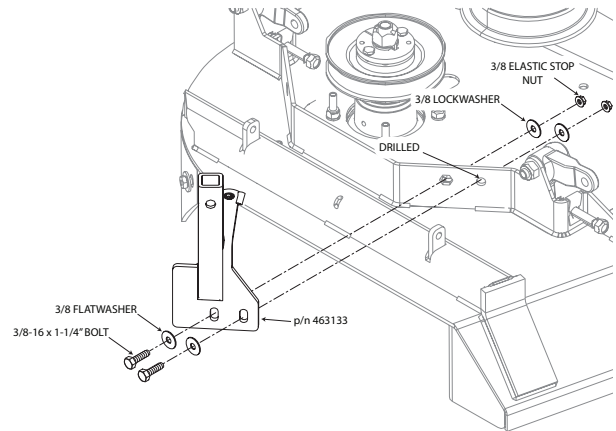
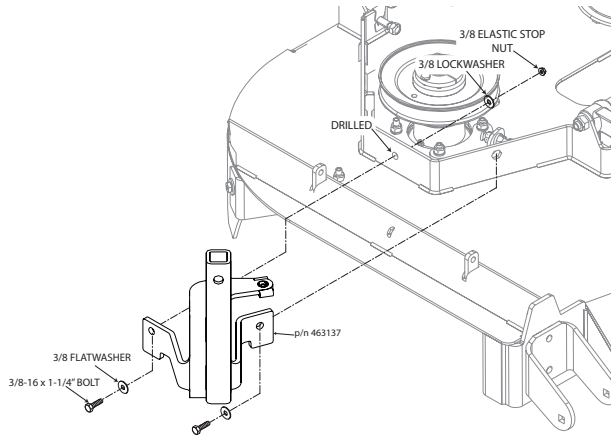

Figure 2-4. Blower Mounting Post Installation (48V)
Figure 2-6. Blower Mounting Post Installation (61V)
8. Install the blower mounting post to the deck using 3/8-16 x 1 1/4" bolts (p/n 04001-32), 3/8 flatwashers (p/n 04041-07), 3/8 lockwasher (p/n 04030-04), and 3/8-16 elastic stop nut (p/n 04021-09). Do not fully tighten the hardware at this time. See Figure 2-4 through Figure 2-6.